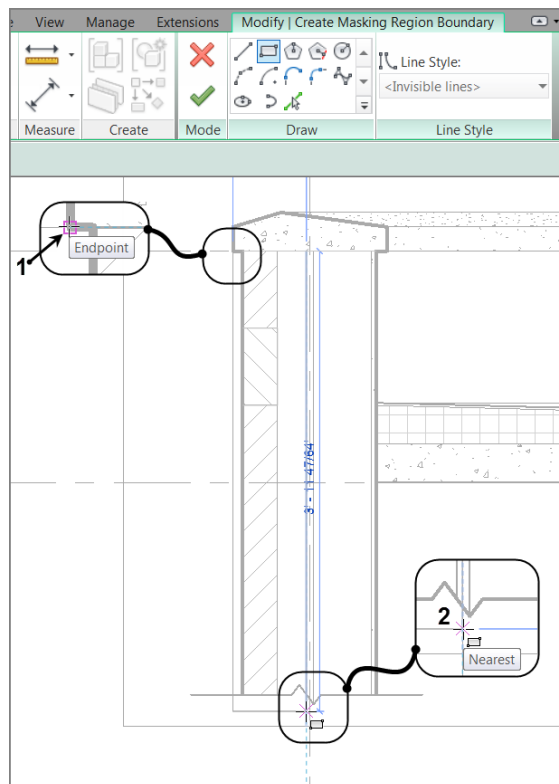

FIGURE 12.5: Click the Rectangle button on the Draw panel, and place a masking region as shown.
3. The Line Style panel offers some choices in the subcategory. Choose <Invisible Lines>, as shown in Figure 12.5.
5. Draw a rectangle at the approximate points shown in Figure 12.5.